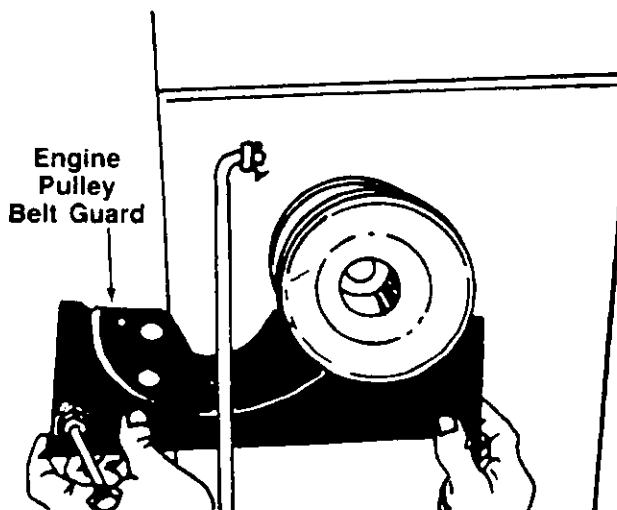

FIGURE 28.
6. Remove the engine pulley belt guard by slipping it back and to the right. See figure 28.